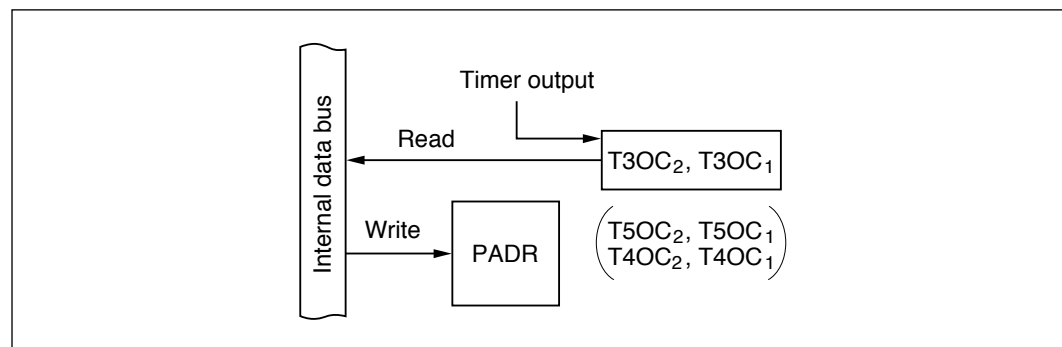

Figure 9-66 Output Compare Pins (Modes 1 to 7)
(6) Timer Output Pins (PA_6 , PA_5 , PA_3 to PA_0 ; Modes 1 to 7): Figure 9-66 shows a block diagram illustrating the timer output function. Table 9-49 indicates register read/write data. When PA_6 , PA_5 , and PA_3 to PA_0 are used for T3OC_2 , T3OC_1 , T5OC_2 , T5OC_1 , T4OC_2 , and T4OC_1 output, values written in the port A data register (PADR) have no effect on the timer output. PADR can be read to monitor the timer output level (T3OC_2 , T3OC_1 , T5OC_2 , T5OC_1 , T4OC_2 , T4OC_1).